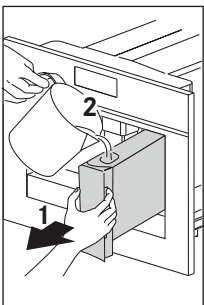
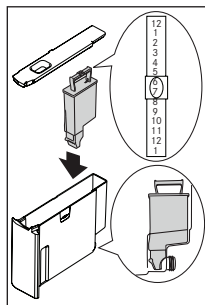

Fig. 11
Fig. 37
- ▶ After 5 seconds, the appliance displays "FILL TANK". Extract the water tank (Fig. 11), rinse and fill with fresh water without exceeding the MAX line. Replace and push as far as it will go. A water softener filter can be installed in the tank (Fig. 37).